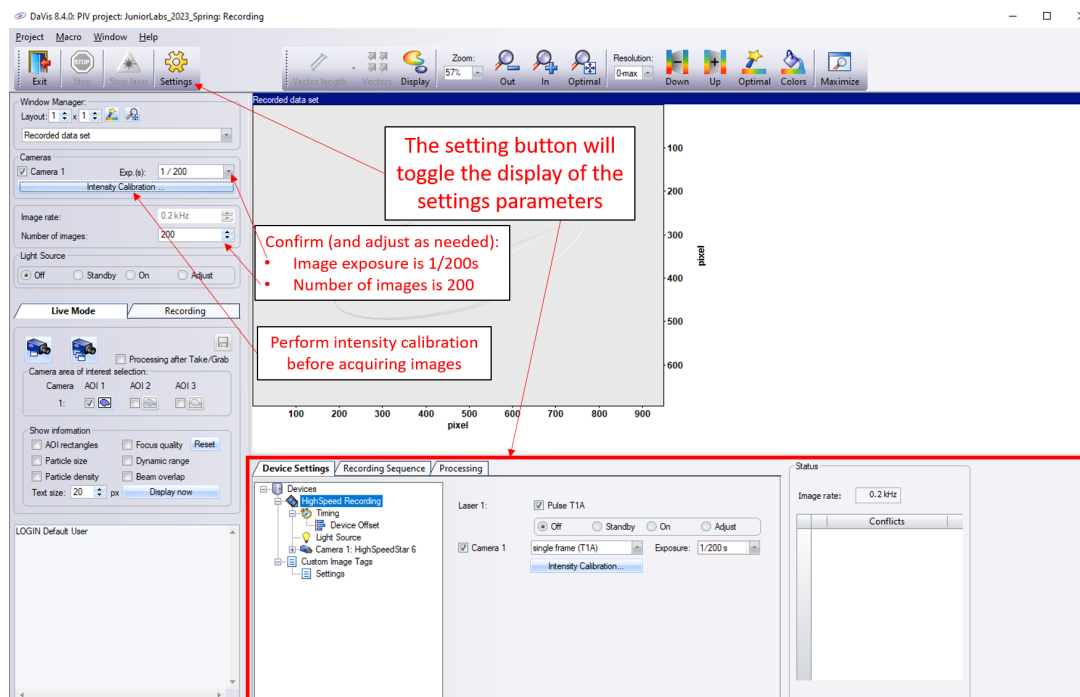

Figure 4: Perform "Intensity Calibration", update the number of images and image rate.
- In the new display, Click "Intensity Calibration" twice, each time wait until the process is completed, see Figure 4.
- Make sure that the number of images is set to 200 and image rate is 0.2 kHz, see Figure 4. This means that you will record *one second* of data.